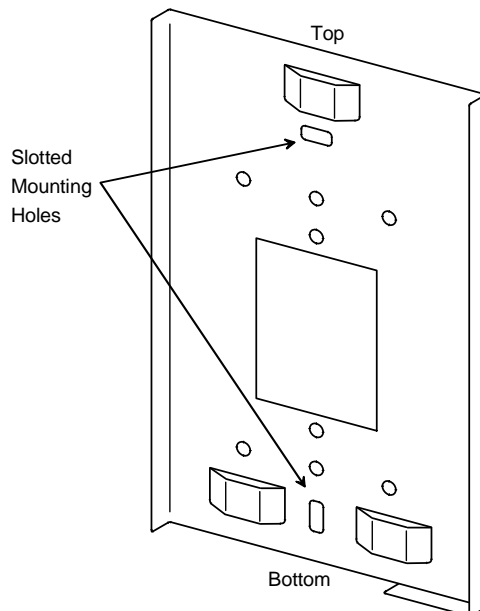

Figure 3. Mounting Bracket
Use Steps 1 through 3 and Figures 3 and 4 to mount the power supply on a wall or other surface capable of supporting the weight of the supply (approximately 5 pounds). Carefully unpack the power supply and inspect for shipping damage.
1. Using the mounting bracket (see Figure 3) as a template, mark the two slotted holes on the surface of the wall.
2. Using mounting hardware capable of supporting approximately 5 pounds, mount the bracket to the wall ensuring that the mounting holes are oriented as shown in Figure 3.